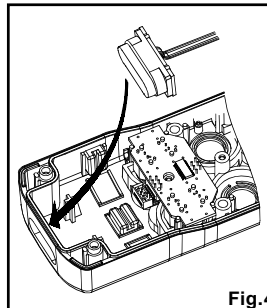

Fig.4
- 6- Fit the assembly formed by the LED circuit/lens/IR window in the UDE housing (see fig.4).